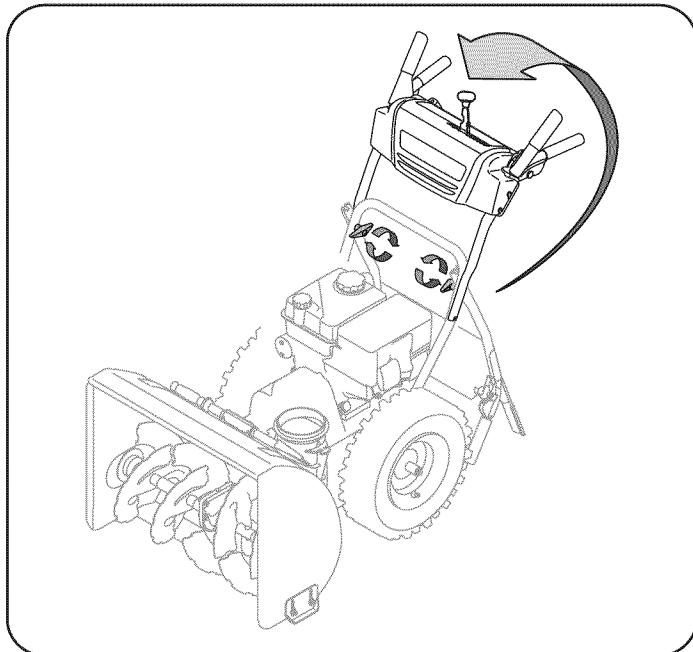

Figure 2
3. Pull and back on the upper handle as shown in Figure 2. Align upper handle with the lower handle.